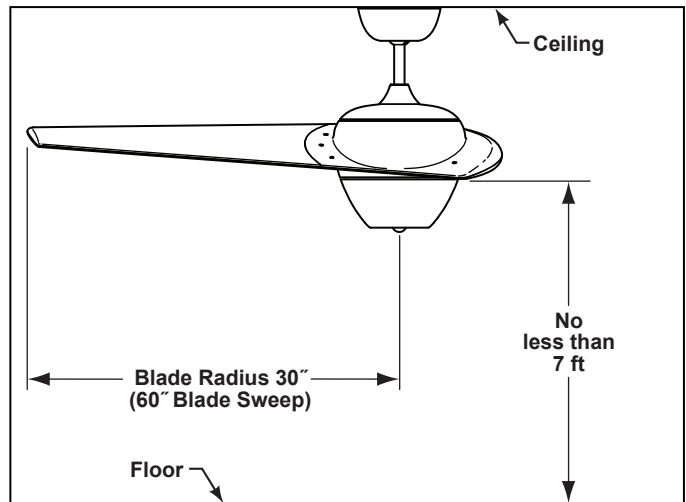
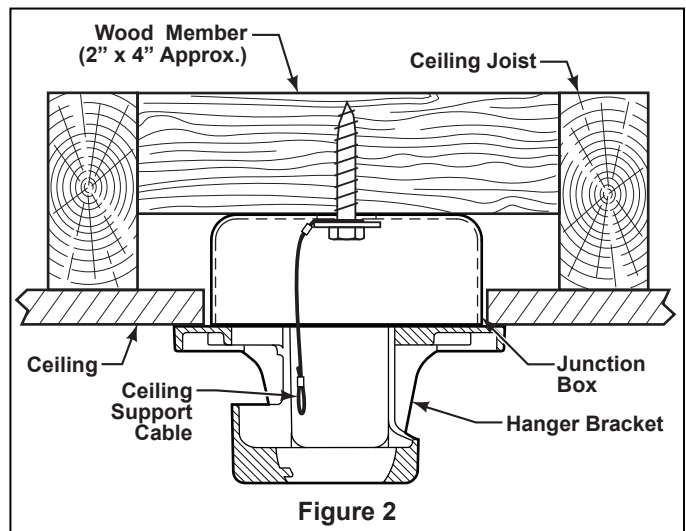

Figure 1
Figure 2
Your new ceiling fan will require a grounded electrical supply line of 220~240 volts AC, 50 Hz, 15 amp circuit. The outlet box must be securely anchored and capable of withstanding a load of at least 50 lbs. Figure 1 depicts different structural configurations that may be used for mounting the outlet box.
3. Assemble the Lower Cover Assembly by connecting the 2-single receptacle (blue & orange wires) socket connector to the plug connector (blue & orange wires). Be sure the connector wires are inside the Control Housing before assembling the Lower Cover Assembly. (Figure 1)
4. Locate and loosen two Indexing Screws located on the Control Housing. (Figure 1) Line up the indexing holes over the screws, secure by twisting the Lower Cover Assembly clockwise and tighten the two indexing screws. (Figure 2)
The fan must be hung with at least 7' of clearance from floor to blade (Figure 1)
1. Securely attach the ceiling support cable to the ceiling joist or structural member using the $\frac{3}{8}$ " x 2" lag bolt and flat washer. The lag bolt will pass through the flat washer, loop of the ceiling support cable, the outlet box and into the supporting member (Figure 2). You will first drill a $\frac{1}{4}$ " pilot hole into the supporting member to prevent splitting or cracking.
NOTE: Ceiling support cable cannot be secured to junction box only, it must be directly secured to ceiling joist or structural member using the $\frac{3}{8}$ " x 2" lag bolt and flat washer. (Figure 2).
- Slide remote Receiver into the Hanger Bracket (Figure 2).